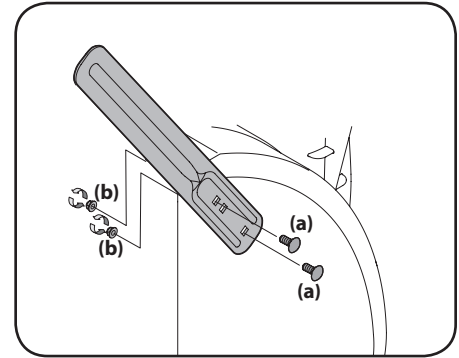

Figure 2-6
2. Turn the drift cutters around and position them as shown in Figure 2-6 to the outside of the auger housing.